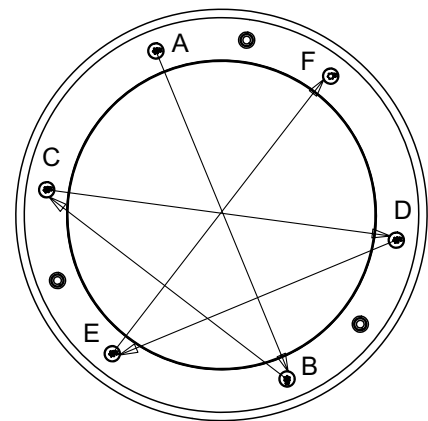

Figure 17: Top ring screw tightening sequence
13. Apply a small amount of grease or anti-seize compound to the original six M6 x 25 top ring screws from the Inground 200 and use them to fasten the original top glass and top ring onto the new Inground 400. See Figure 17. Use a torque driver and cross-tighten the top rings screws gradually in at least three stages until you reach a torque of 9 Nm.